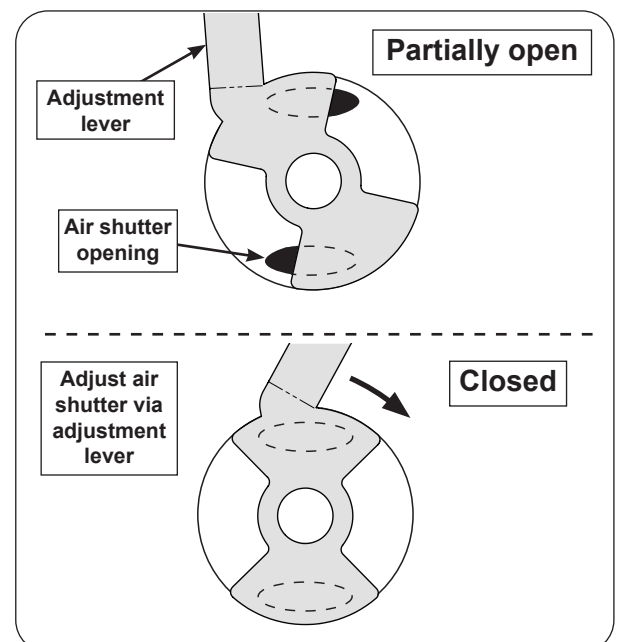

Fig. 39-3 Main burner air shutter adjustment
3. Begin closing the air shutter **with the adjustment lever** until the flames appear to burn while touching the burner ports (Fig. 39-3).